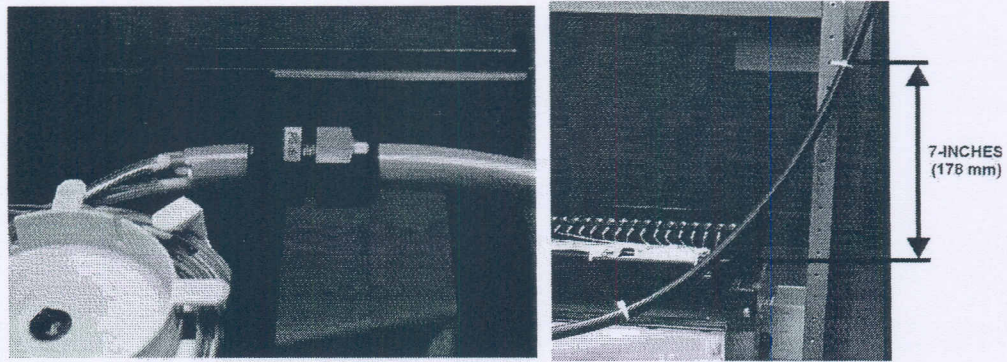

Figure 4. Cable Installation
3. Secure the cable egressing from the rear of the shelf to the frame with cable ties. Ensure proper cable slack remains to allow for sliding action of the shelf as shown in Figure 4.
3. Secure the incoming fiber optic cable(s) using the cable strain-relieve fitting(s) as described above (see Figure 4).